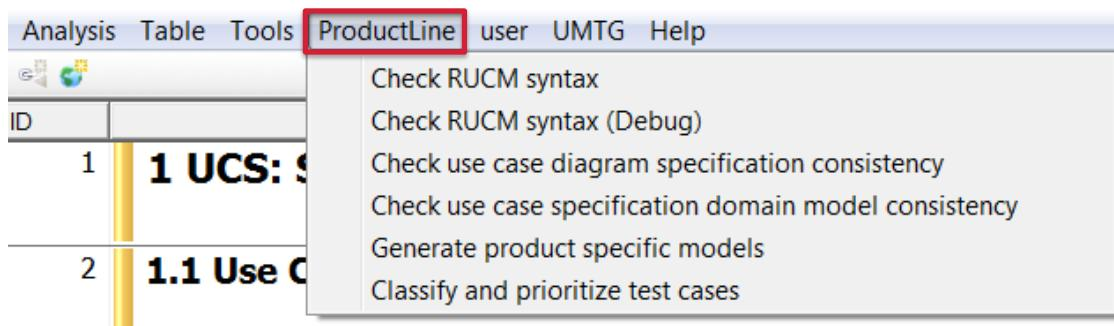

Figure 12: ProductLine Menu for DOORS
3. Open a formal module in DOORS (restart DOORS). If you have followed all the steps so far, a new ProductLine menu should appear in the top menu bar (see Figure 12).